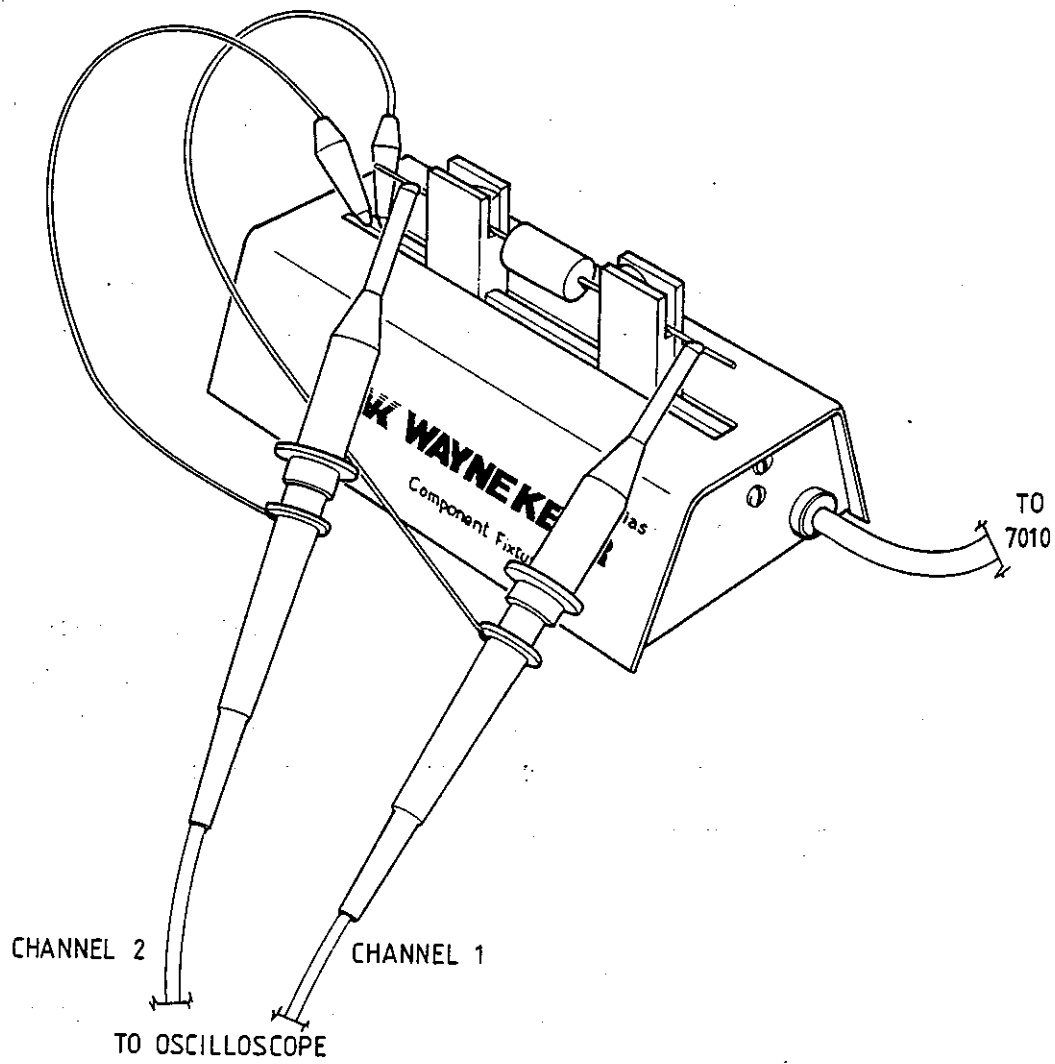

Fig. 5.1 Setting Guard Amplifier Balance
Fit 1.8nF capacitor (item 10) to fixture. Connect Oscilloscope (item 6) fitted with x1 probes to monitor the voltage at each end of this component, grounding both probes to the stainless bar on the fixture. It is important that this ground connection is made at the end of the bar away from the Bias marking (see Fig.5.1).